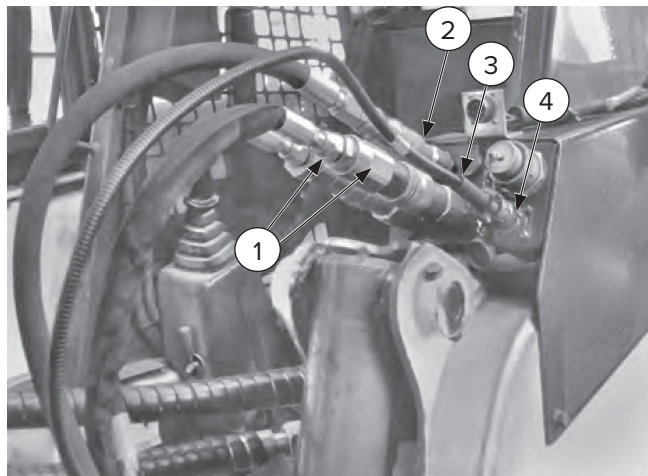

Figure 4
2. Connect the case drain [Figure 4, Item 2] first, and then connect the supply and return lines [Item 1]. (See “4.5 Connecting Flat-Faced Quick Couplings” on page 16.)